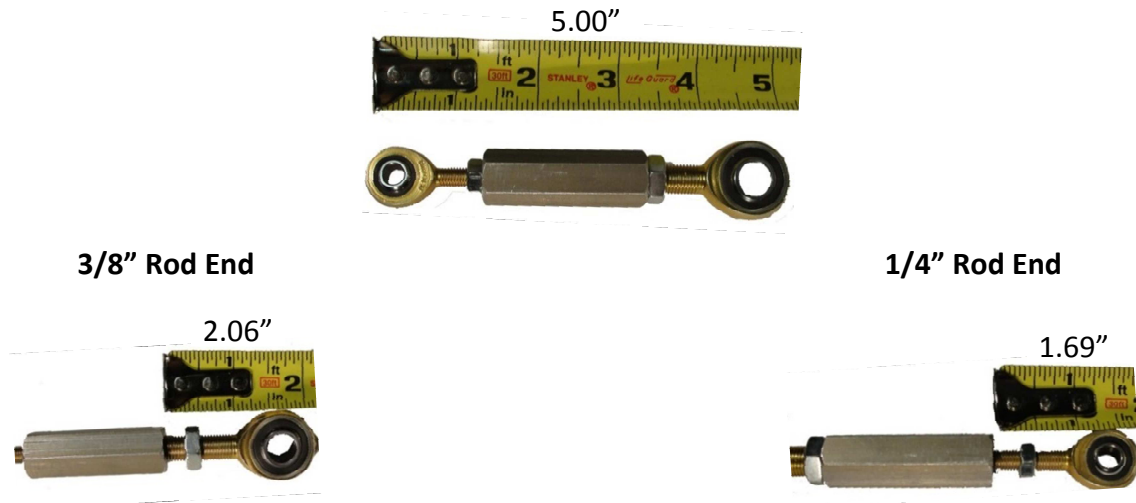

Figure 12: Turnbuckle Assembly Length / Extension Limits
11. Adjust the turnbuckle assembly. The turnbuckle assembly will get longer or shorter as the center hex piece is rotated since one rod end has right-hand threads and the other rod end has left-hand threads. The length of the turnbuckle assembly will vary slightly from installation to installation. Figure 12 shows the approximate length of the turnbuckle assembly for this installation. Figure 12 also shows the maximum distance each rod end can be extended out of the hex piece while still maintaining safe thread engagement.